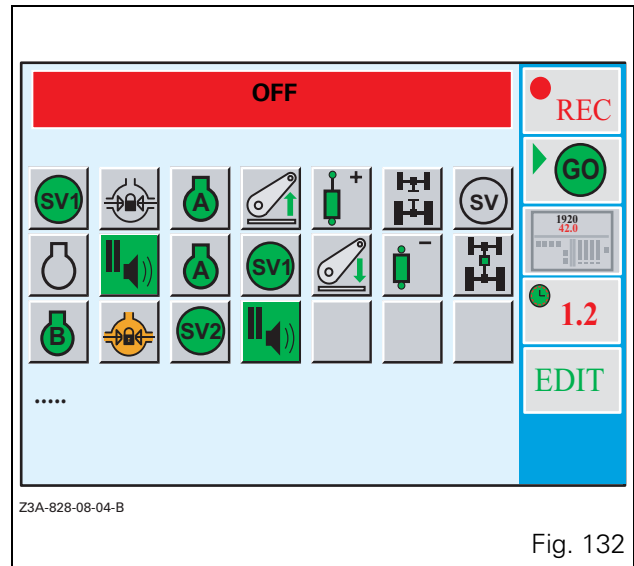
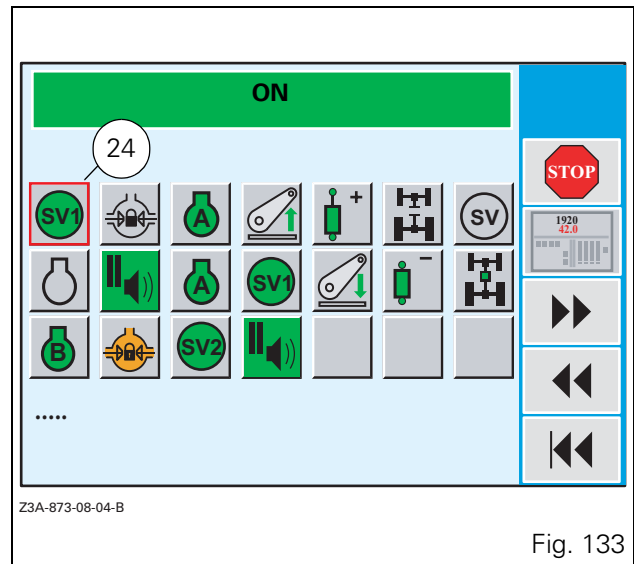
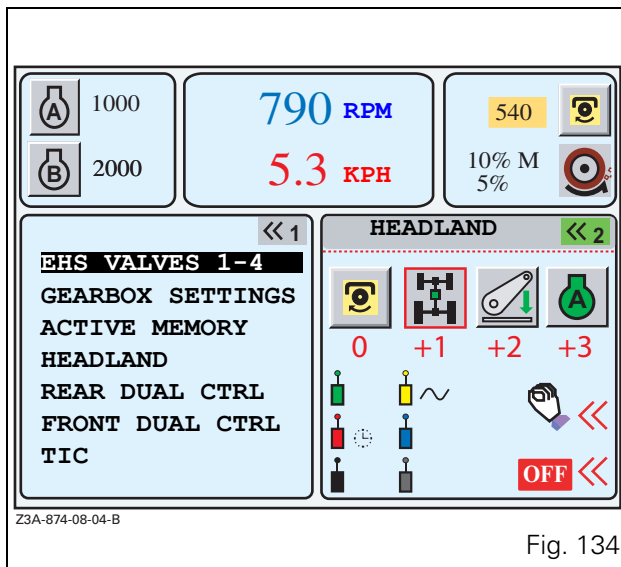

Fig. 132
Fig. 133
Fig. 134
- Press the key $\ll_2$ (GO) when the window (Fig. 132) is open. A new window is displayed (Fig. 133).
The first icon (first action) is outlined in red (24 Fig. 133).
When the (Fig. 132) window is open, press the key <<4. Pressing this key increases the time delay by 0.2 seconds.
In both reading modes, reading progress can be modified if an action needs to be activated manually (Fig. 133):
When the window (Fig. 132) is open, press the key <<3. The window (Fig. 134) is displayed.
NOTE: For the description of the window (Fig. 134), see paragraph 7.4.6 (HEADLAND menu).